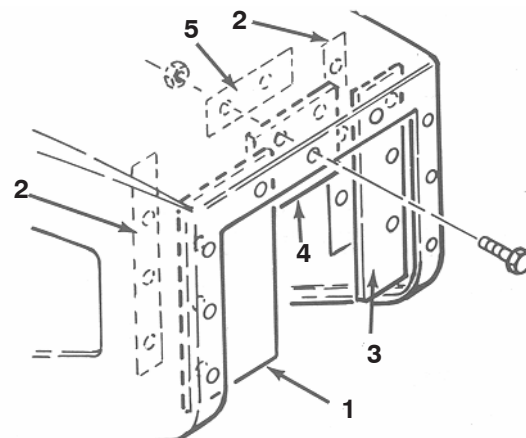

Figure 19
1. Secure the wide shield to the left inside lip of the hopper opening with a long flat, (3) #10 – 24 X 1" lg. screws and #10 – 24 flange nuts (Fig. 19).
2. Secure the narrow shield to the right inside lip of the hopper opening with a long flat, (3) #10 – 24 X 1" lg. screws and #10 – 24 flange nuts (Fig. 19).
3. Secure the top shield to the upper inside lip of the hopper opening with a short flat, (2) #10 – 24 X 1" lg. screws and #10 – 24 flange nuts (Fig. 19). Use the (2) mounting holes on the right side of the opening only.